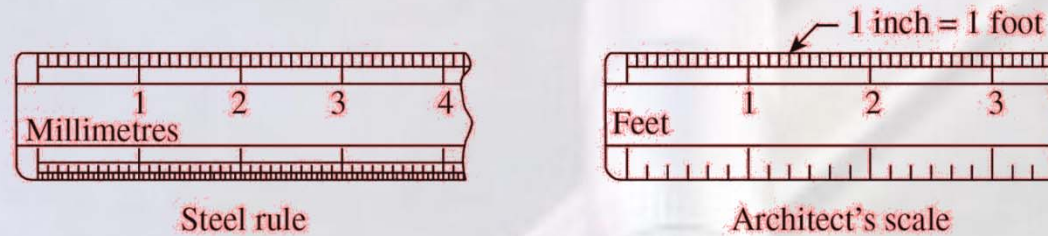

Fig. 4.7 Illustration of the difference between a rule and a scale
- ✓ A scale is graduated in *proportion* to a unit of length. For example, the divisions in an architect's scale illustrated in figure 4.7 represent feet and inches, while the plumber's scale would have divisions in terms of $1/32$ or $1/64^{\text{th}}$ of an inch.